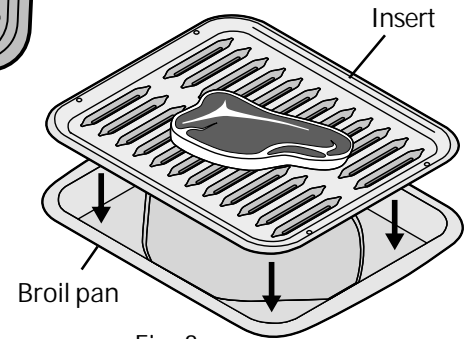

Fig. 3
- When using a pan made especially for broiling, be sure to use only Electrolux Home Products, Inc. approved broil pan & insert (See Fig. 3).